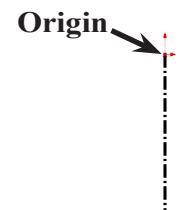

Fig. 2
Step 3. Click **Centerline**  (S) in the **Line flyout**  on the Sketch toolbar.
Step 4. Draw **vertical centerline down** from the Origin , **Fig. 2**.
Step 5. Click **Line**  (L) on the Sketch toolbar.
Step 6. Draw lines as shown, **Fig. 2**. Keep top horizontal line coincident with the Origin.
Step 7. Click **Smart Dimension**  (S) on the Sketch toolbar.